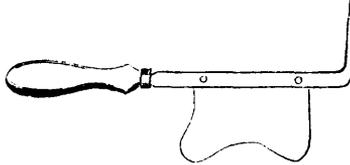
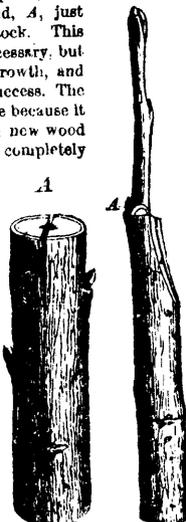

Fig. 2.—GRAFTING KNIFE.
Fig. 10. CLEFT GRAFTING.
The Tools required are: a saw with fine teeth, set rather wide; a strong knife, and a smaller one, both very sharp, a wedge of iron or hard wood, a wooden mallet, and, if much work is to be done, a grafting knife or chisel, fig. 2. This has a thin blade and a
The "cleft-graft."—Saw off the branch of the stock, being careful not to tear the bark; pare the cut surface smooth with a strong knife. If the stock is an inch or less in diameter, cut away about half with a slope as in figure 8. Then, by means of a strong, thin knife, or the grafting knife, and a blow of the mallet, make a split across this slope. Prepare the cion, which may have 2 to 4 buds, by whitening it to a long even wedge, as in figure 9, beginning at a bud (A) and tapering to an edge, making one side of the wedge somewhat thicker than the other, as seen in the section at B. Open the split in figure 8 with the point of a knife or a wedge, and insert the cion, as seen in figure 10, taking care that the vital parts, as before, come in contact, leaving the bud, A, just above the top of the stock. This bud is not absolutely necessary, but it is a center of active growth, and increases the chances of success. The slope in the stock is made because it will become covered with new wood and bark, and heal more completely than a cross-cut. When the stock is two or more inches across, two cions may be put in; the stock being sawed square across and trimmed, is split as in figure 11, with the grafting knife (fig. 2), the curved edge of which cuts the bark before the wood. The cleft is sprung open by means of the chisel point of the knife, while the cions are being inserted, and when they are in place (fig. 12), this is taken away, and the springing together of the cleft holds them firmly.
Fig. 9, beginning at a bud (A) and tapering to an edge, making one side of the wedge somewhat thicker than the other, as seen in the section at B. Open the split in figure 8 with the point of a knife or a wedge, and insert the cion, as seen in figure 10, taking care that the vital parts, as before, come in contact, leaving the bud, A, just above the top of the stock. This bud is not absolutely necessary, but it is a center of active growth, and increases the chances of success. The slope in the stock is made because it will become covered with new wood and bark, and heal more completely than a cross-cut. When the stock is two or more inches across, two cions may be put in; the stock being sawed square across and trimmed, is split as in figure 11, with the grafting knife (fig. 2), the curved edge of which cuts the bark before the wood. The cleft is sprung open by means of the chisel point of the knife, while the cions are being inserted, and when they are in place (fig. 12), this is taken away, and the springing together of the cleft holds them firmly.